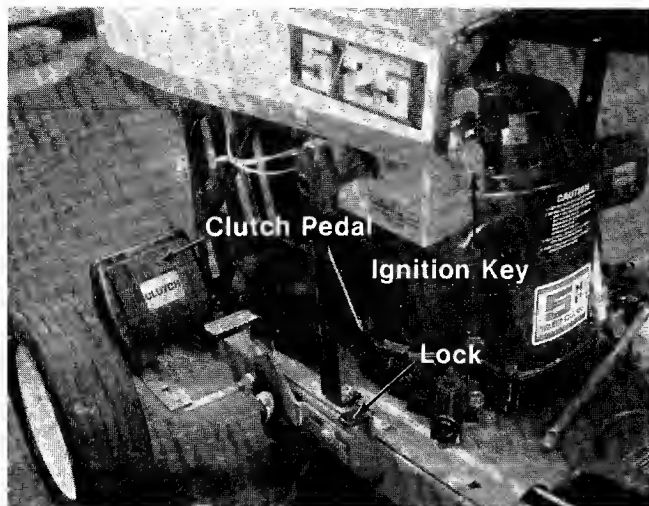

FIGURE 13.
- F. The Clutch Pedal is operated with your left foot. The Clutch Pedal, when depressed, disengages the engine from the transmission so you can stop the movement of the rider mower to shift gears. The Clutch Pedal can be locked in the DISENGAGED position by depressing the Clutch Pedal and lifting the clutch lock with your left hand. To release the Clutch Pedal, depress it with your foot. See figure 13.
4. Depress the Clutch Pedal and lock it down with lock. See figure 13.